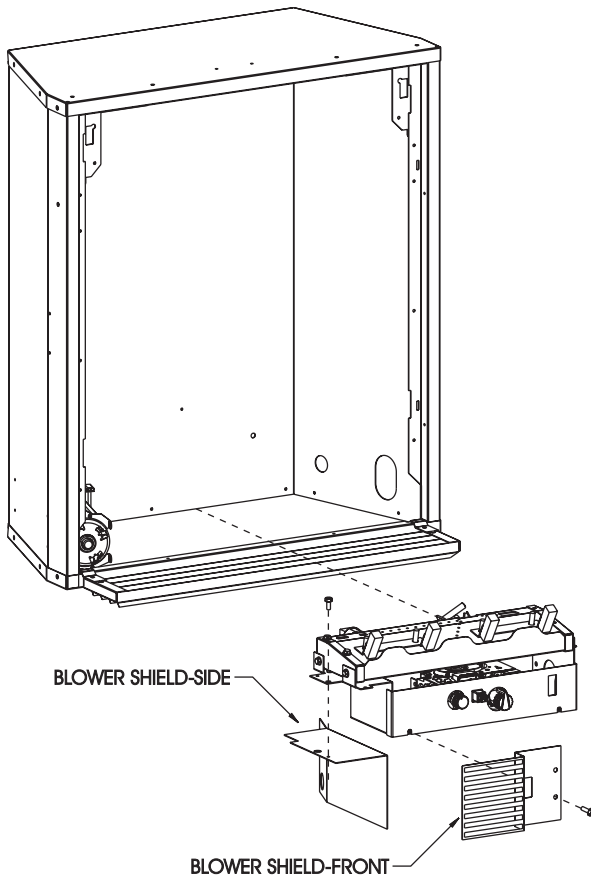
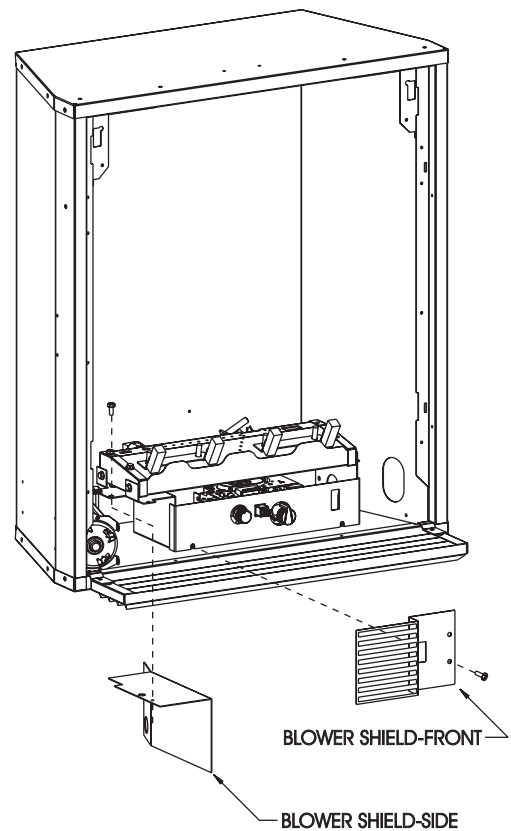

Figure 3
Figure 4
11. Place blower shield side adjacent to motor. Route blower motor wires through Heyco on blower shield side. (See Figure 3 and Figure 4)
15. Route two (2) flag terminals on wire harness through Heyco on blower shield side.
16. Attach two (2) flag terminals on wire harness to fan control (bracket).
19. Attach (1) pin terminal from black (hot) wire, smooth insulation on cord set to (1) socket terminal from black wire on AUTO/OFF/ON switch.
20. Attach (1) pin terminal from black (neutral) wire, ribbed insulation on cord set to (1) socket terminal from black wire on motor.
21. Attach (1) pin terminal from white wire on AUTO/OFF/ON switch to (1) socket terminal from white wire on motor.
22. Attach green ground wires from wiring harness and cord set to interior back of outer casing with one (1) 8 x 1/2" Phillips screw.
23. Position blower shield side beneath left flange on burner assembly. Align clearance hole on left flange of burner assembly with screw hole on blower shield side. Attach burner assembly to blower shield side with one (1) 10 x 1/2" screw. (See Figure 3 for **not installed** or Figure 4 for **installed**)
- burner assembly. Insert blower shield front adjacent to blower motor and blower shield side. Align clearance hole on blower shield front with left, front screw hole on valve cover. Attach blower shield front to valve cover with 10 x 1/2" screw. (See Figure 3 for **not installed** or Figure 4 for **installed**)